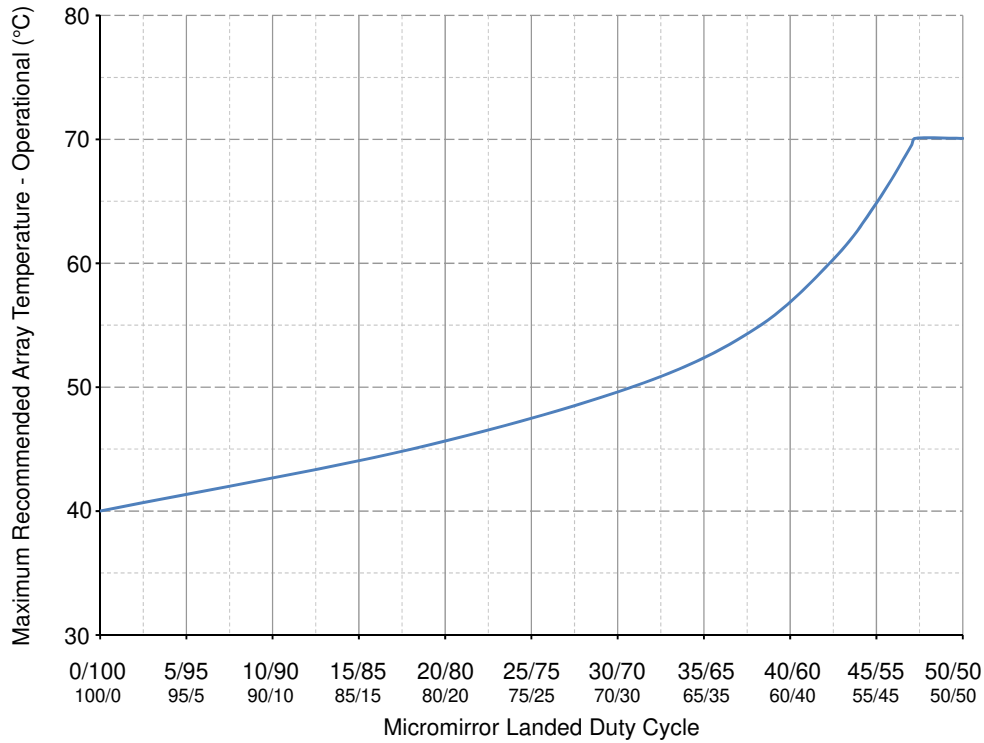

Figure 5-1. Maximum Recommended Array Temperature—Derating Curve
- (11) Per Figure 5-1, the maximum operational array temperature should be derated based on the micromirror landed duty cycle that the DMD experiences in the end application. Refer to Section 6.9 for a definition of micromirror landed duty cycle.
- (12) Long-term is defined as the usable life of the device.
- (13) Short-term is the total cumulative time over the useful life of the device.
- (14) The average over time (including storage and operating) that the device is not in the 'elevated dew point temperature range'.
- (15) Exposure to dew point temperatures in the elevated range during storage and operation should be limited to less than a total cumulative time of CT_{ELR} .
- (16) The active area of the DMD is surrounded by an aperture on the inside of the DMD window surface that masks structures of the DMD device assembly from normal view. The aperture is sized to anticipate several optical conditions. Overfill light illuminating the area outside the active array can scatter and create adverse effects to the performance of an end application using the DMD. The illumination optical system should be designed to minimize light flux incident outside the active array. Depending on the particular